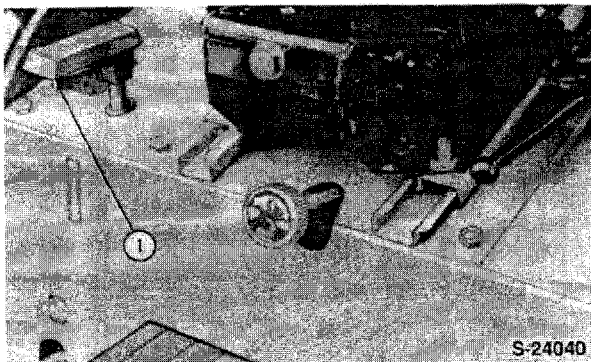

Figure 37
14. If equipped with FWD, remove the FWD lever (1), Figure 37.